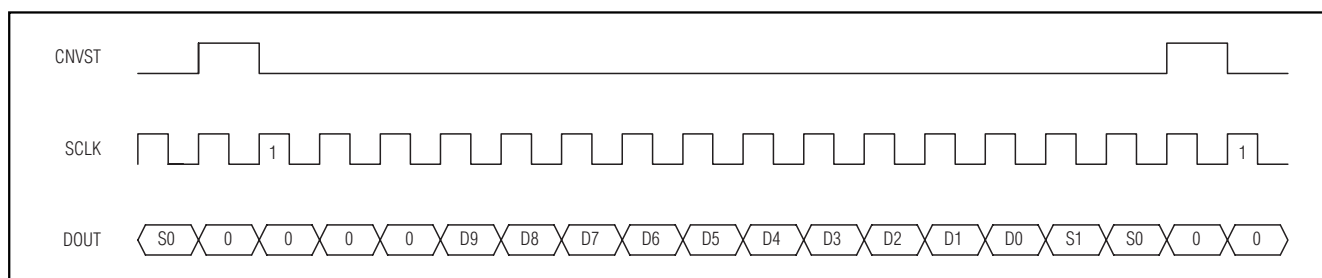

Figure 17. DSP Interface—Continuous Conversion
The MAX1070/MAX1071 can also be connected to the TMS320C54_ by using the data transmit (DX) pin to drive CNVST and the CLKX generated internally to drive SCLK. A pullup resistor is required on the CNVST signal to keep it high when DX goes high impedance and 0001hex should be written to the DXR continuously for continuous conversions. The power-down modes may be entered by writing 00FFhex to the DXR (see Figures 17 and 18).
registers should be configured for late framing (LAFR = 1) and for an active-low frame (LTFS = 1, LRFS = 1) signal. This is also the best way to enter the power-down modes by setting the word length to 8 bits (SLEN = 1001). Connect the V_L pin to the ADSP21_ _ supply voltage when the MAX1070/MAX1071 are operating with a supply voltage higher than the DSP supply voltage (see Figures 17 and 18).